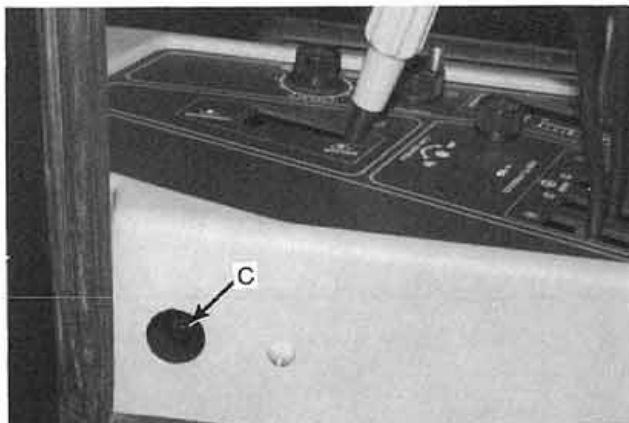

Figure 14: Calibration Switch
3. To activate the calibration sequence, momentarily depress the calibration button (C). Once initiated, the calibration sequence may take up to one minute to complete. (Fig. 14)